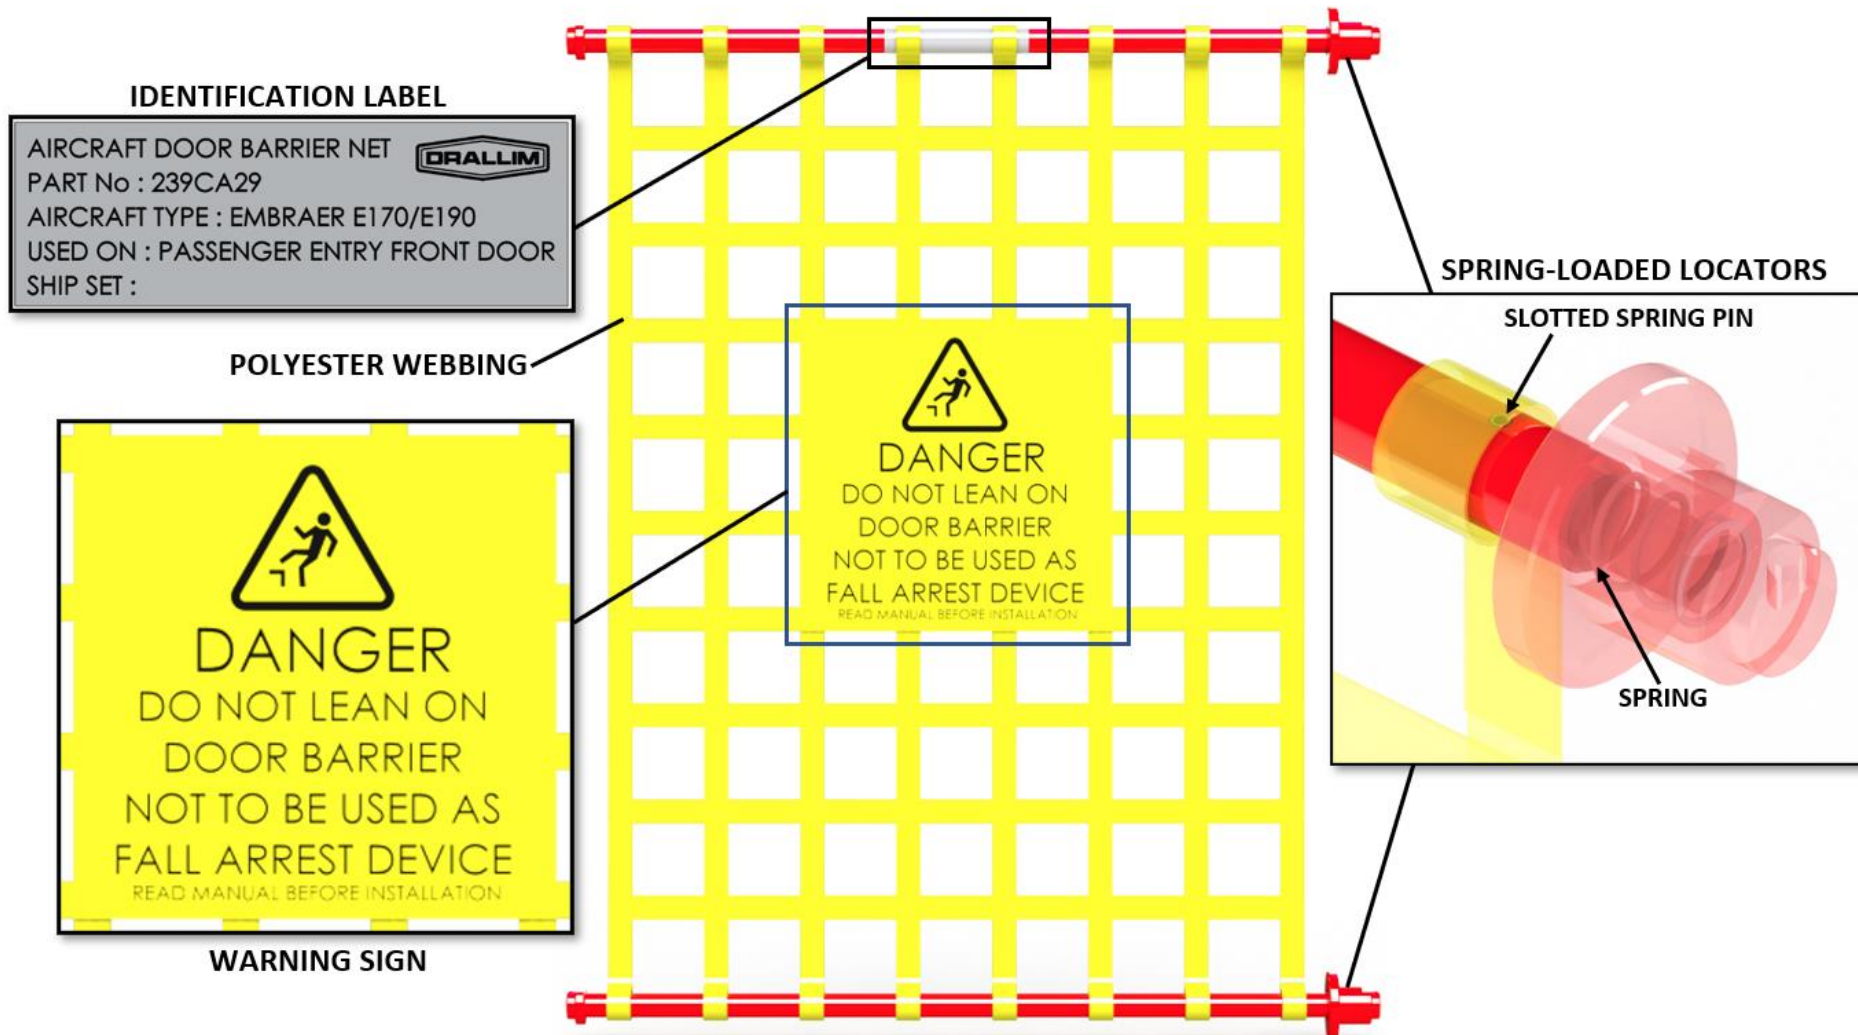

Figure 5. 239CA29, 241CA29, & 242CA29 Inspection.
- 3.3.2 Check condition of the **Polyester webbing** and **stitching** for defects and damage i.e., scaring, abrasion, flaring and cuts Refer to figure 5 & 6.